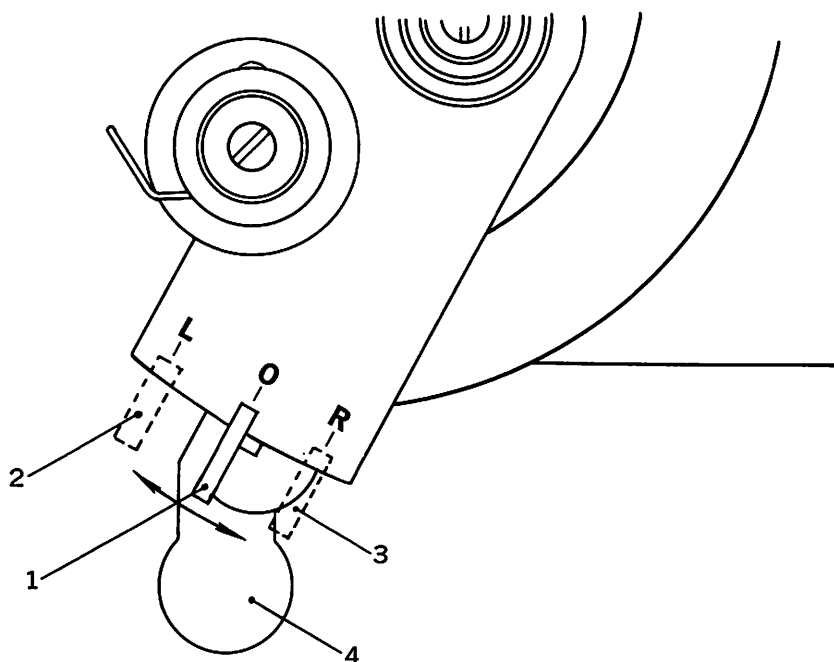
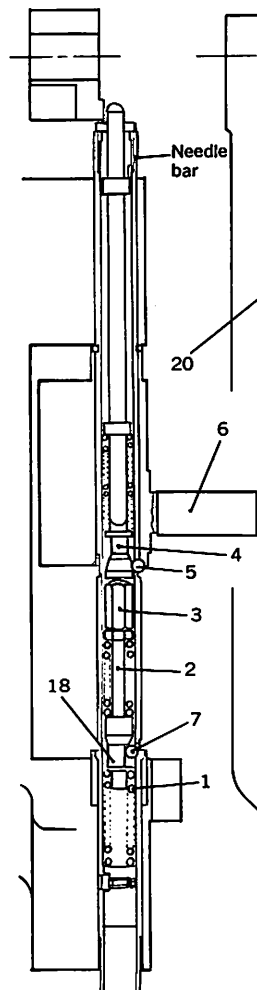
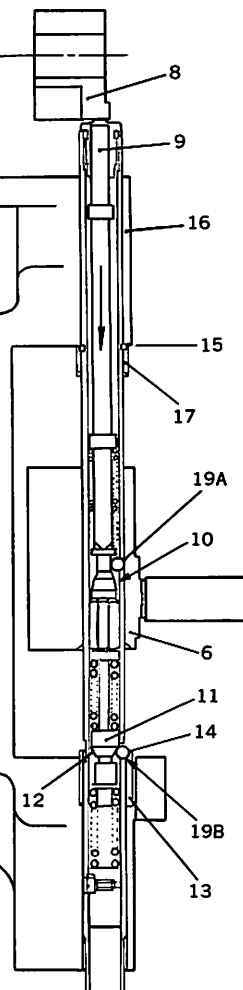
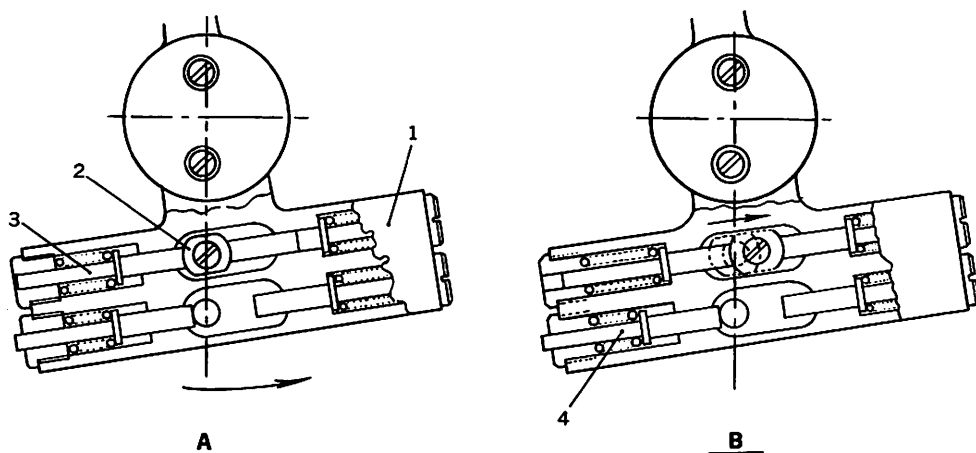

Fig. 21
Fig. 23A
Fig. 23B
Fig. 25
Pushing the needle bar change over lever (1)—Fig. 21—to either position “L” or “R” will selectively suspend the reciprocating movement of either one of the two individual needle bars.
The mechanism disposed within the needle bar is detailed on Fig. 23A which shows a needle bar in the operational state, while Fig. 23B shows a needle bar in stopped position. The force of spring (1) pushes plunger (2) and adjusting nut (3) against cone (4) which in turn forces three steel balls (5) outwardly beyond the diameter of the needle bar and against the countersink at the bottom end of the needle bar connecting stud (6). At the same time triangular prism (18) is allowing three steel balls (7) to recede below the diameter of the needle bar. Consequently, the movement of the needle bar connecting stud will cause the needle bar to reciprocate.
When stopping a needle bar by moving the change over lever (1) (Fig. 21) into either the "L" or "R" positions, the mechanism locates needle bar selector block (8)—Fig. 23B—directly above the respective rod end (9). This rod end of the reciprocating needle bar now contacts the selector block causing the rod to move downward inside the needle bar causing cams (10 and 11) to likewise move downward. This allows upper balls (19A) to recede below the diameter of the needle bar while at the same time forcing lower balls (19B) outwardly beyond the diameter of the needle bars. Lower balls (19B) are now forced against the tapered mouth (14) of the needle bar bushing (13) and will stop the downward movement of the needle bar. While needle bar position guide (15) contacts the bottom of the upper end of the needle bar rock frame, thereby locking the needle bar tightly into place. At the same time the retracted upper balls (19A) do no longer lock the needle bar against the underside of the needle bar connecting stud (6) and so allow the latter to glide along the needle bar.
When the needle bar change over lever (1)—Fig. 21—is set to either “L” or “R” position, the rod end (9) of the selected needle bar, when same is in its highest position, will contact the underside of selector block (8) causing said needle bar to become disengaged from its driving mechanism.
Shifting the needle bar change over lever—Fig. 21—to “R” will cause the needle bar change over frame to move in direction of the arrow (Fig. 25).
When disengaging the needle bar stop pushing the lever release (4)—Fig. 21—, the needle bar change over frame and the needle bar change over frame connection return to their first position. Thereby, the slide block for needle stop separates from the needle bar stopping stud and returns to their first position.